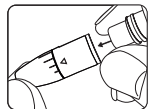

Figure 23
STEP 1: Remove the cap of the lancing device by twisting it off. See Figure 23.